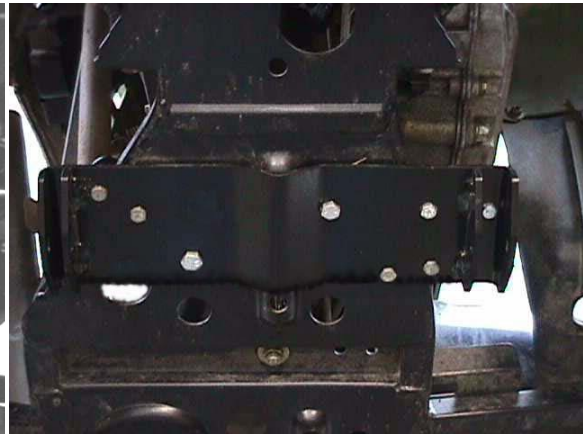

Figure 2
1. Slide the plow into position with the tubes under the ATV. Lift the end of the tube assembly into position so the holes in the tube wings line up with the 3/8" holes in the frame brackets (Figure 2).